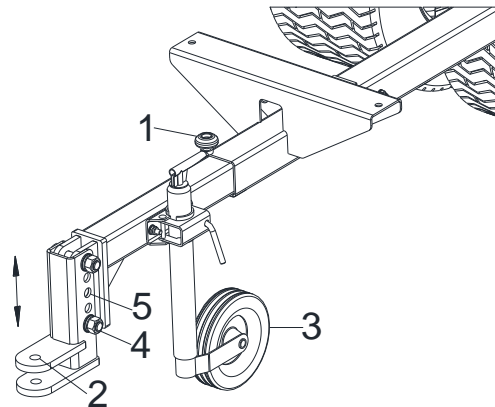
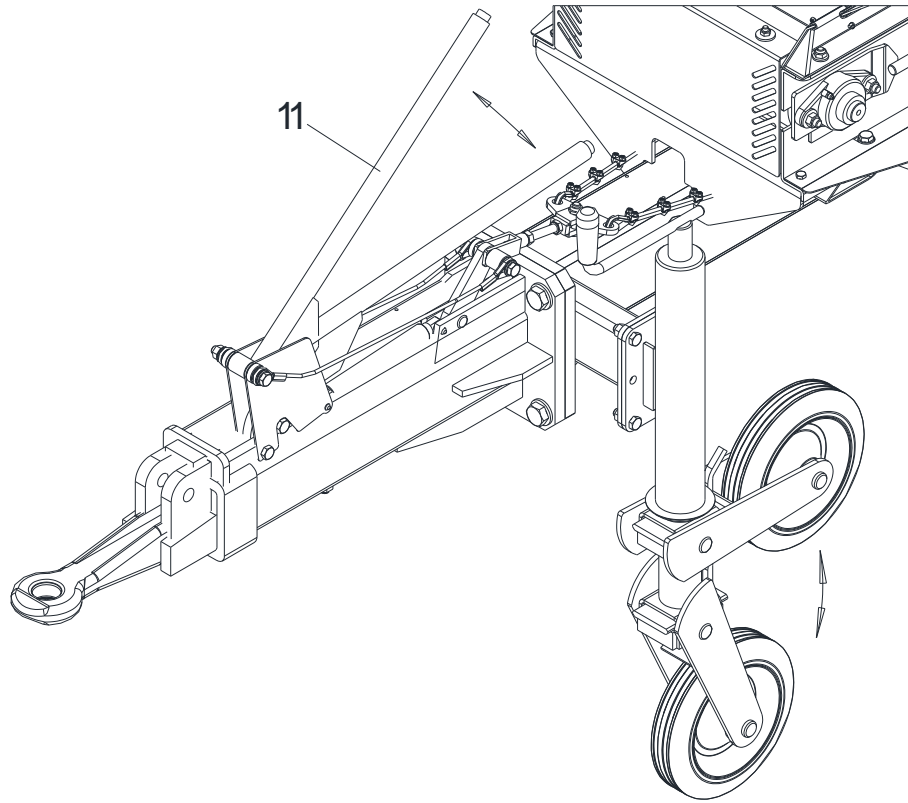

Fig. 23 Connections DS1200
Fig. 25 Connections DS1600, DS3100
If the trailer hitch and the drawbar (Fig. 23/2) are not at the same height the drawbar can be adjusted in height using the bolted connections (Fig. 23/4) and the offset holes (Fig. 23/5).
Attach the drawbar (Fig. 23/2) to the trailer hitch of the towing vehicle, refer to the operating instructions of the towing vehicle.
Set the jockey wheel (Fig. 23/3) to the uppermost position. To do this, raise the jockey wheel axle completely with the crank (Fig. 23/1).
6. To drive, release the brake (Fig. 25/11)
1. Set the jockey wheel (Fig. 23/3), (Fig. 24/3) to the lowest position. To do this, lower the jockey wheel axle completely with the crank Fig. 23/1), (Fig. 24/1).
2. Tighten the brake of the overrun brake system (Fig. 25/11)
5. Detach the angled drawbar eye (Fig. 23/2), (Fig. 24/2), (Fig. 25) from the trailer hitch of the towing vehicle, refer to the operating instructions of the towing vehicle.